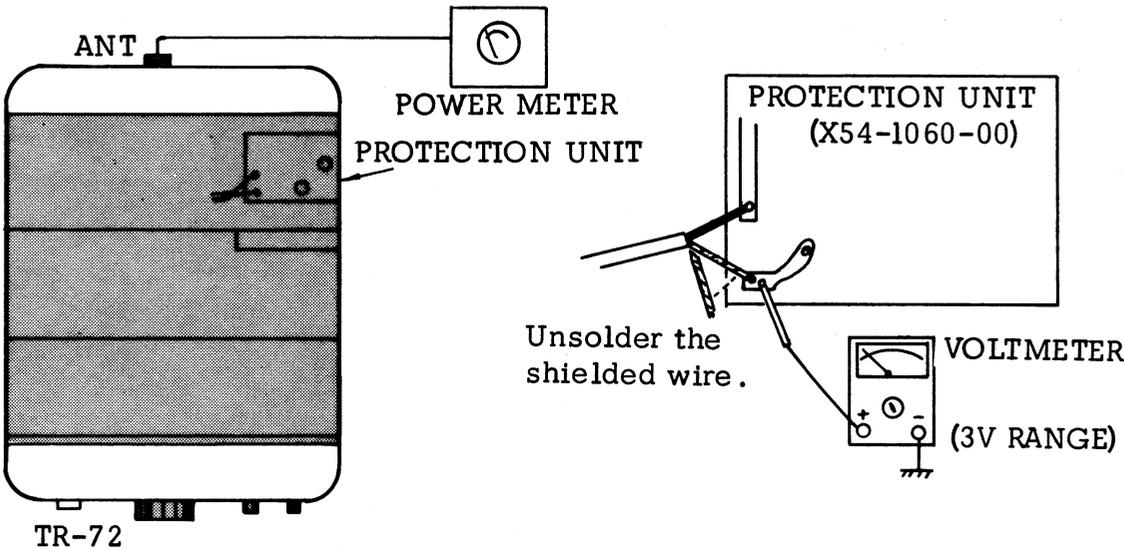

Figure 5-6. Connections for Protection Circuit Adjustment
- c. Make connections shown in figure 5-6. Unsolder the shielded wire as shown.